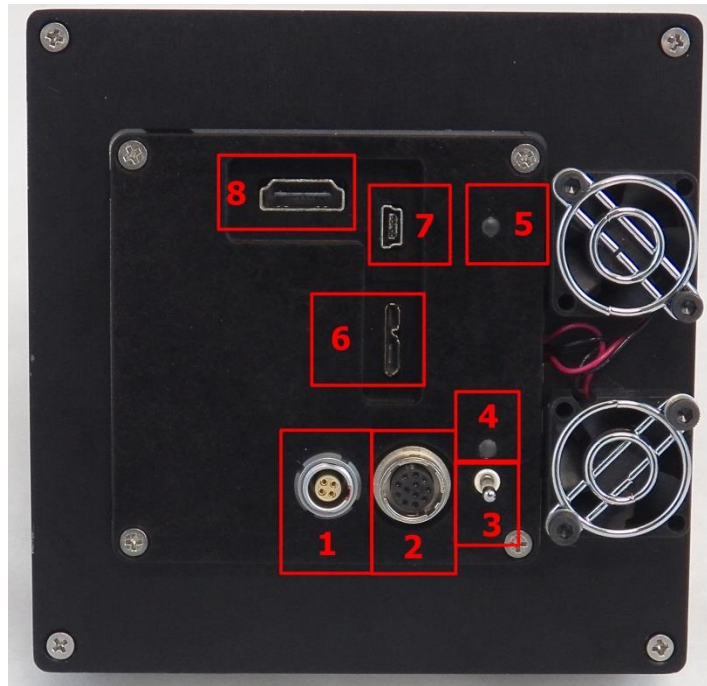

Figure 1
2. Connect USB 3.0 cable to camera and PC (Figure 1 Find #6).
3. Connect power (Figure 1 Find # 1).
4. Power the camera on with the switch (Figure 1 Find #3).
- a. The power good LED (Figure 1 Find #4) should light immediately.
- b. Within 30 seconds the camera status LED (Figure 1 Find #5) should be solid green.
12. To power off the camera use the power switch on the rear of the camera, Figure 1 (Find #3).